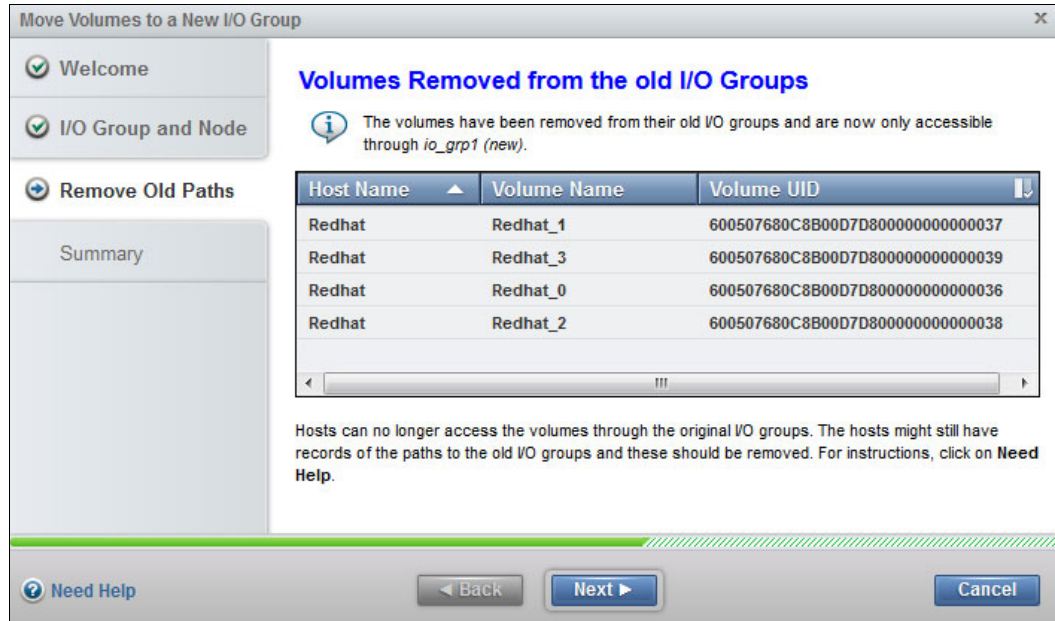

Figure 5-73 Old paths are removed
4. When you confirm that hosts discovered all new paths for the volumes, the Move Volumes to a New I/O Group wizard removes access to the first I/O group and thereby also removes all paths to it. Click **Next** to remove the old paths (Figure 5-73).